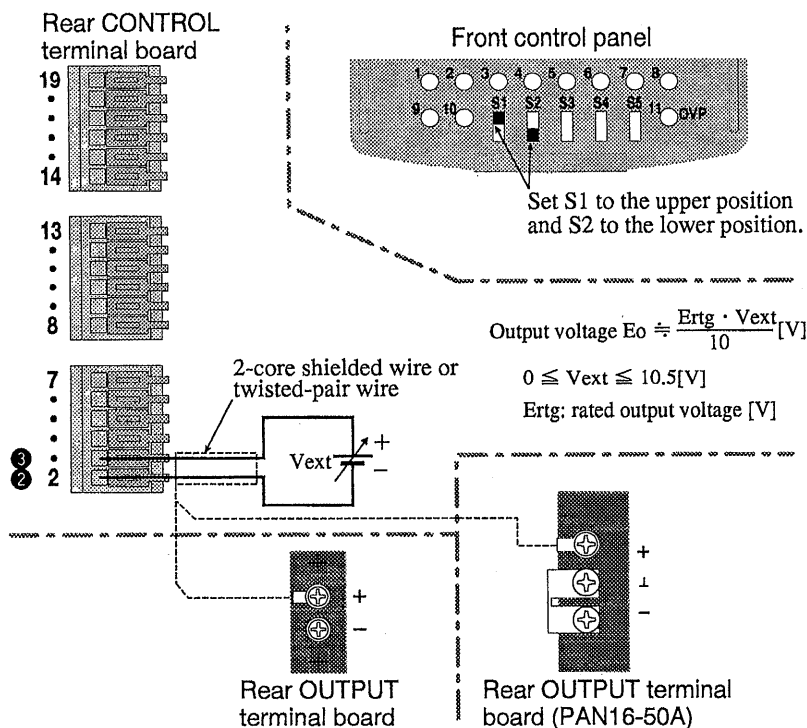

Fig. 3-7A Connection and setup for output voltage control using external voltage
- ④ Set the control switches S1 and S2 to the position shown in Fig. 3-7A.
- ⑤ Connect the voltage source across the control terminals ② and ③ as shown in Fig. 3-7A.